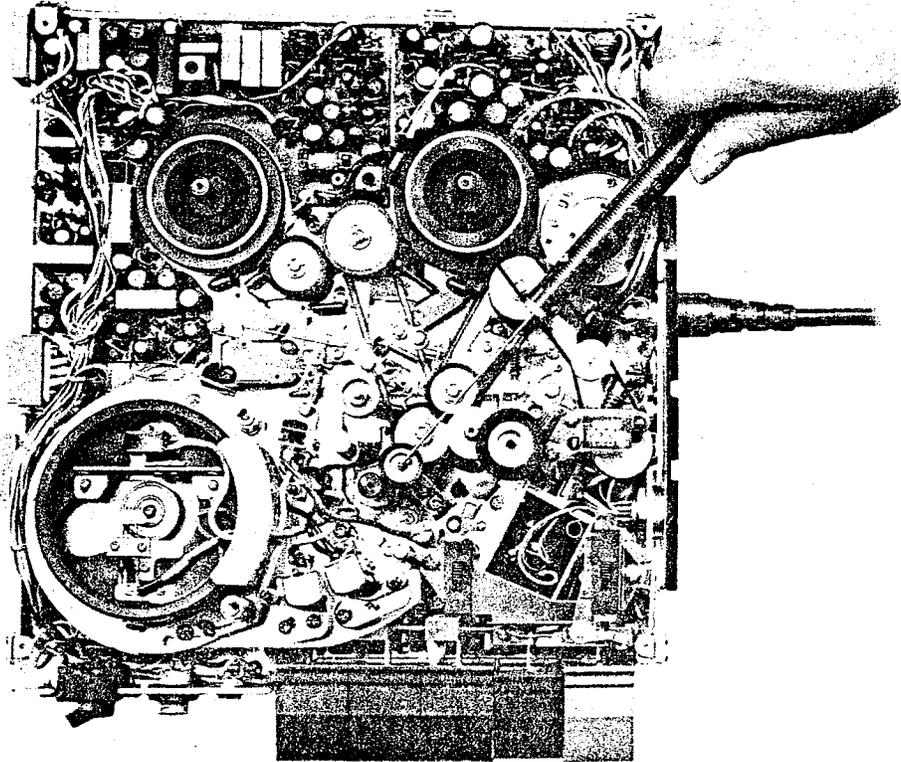

Fig. 4 Sub Pinch Roller Pressure Measurement
**(2) Sub Pinch Roller Adjustment**
- (b) Measure Sub Pinch Roller Pressure by connecting a 0 to 50 gram Spring Gauge to the Sub Pinch Roller Shaft as shown in Fig. 4. Specified value is 40 to 50 grams.